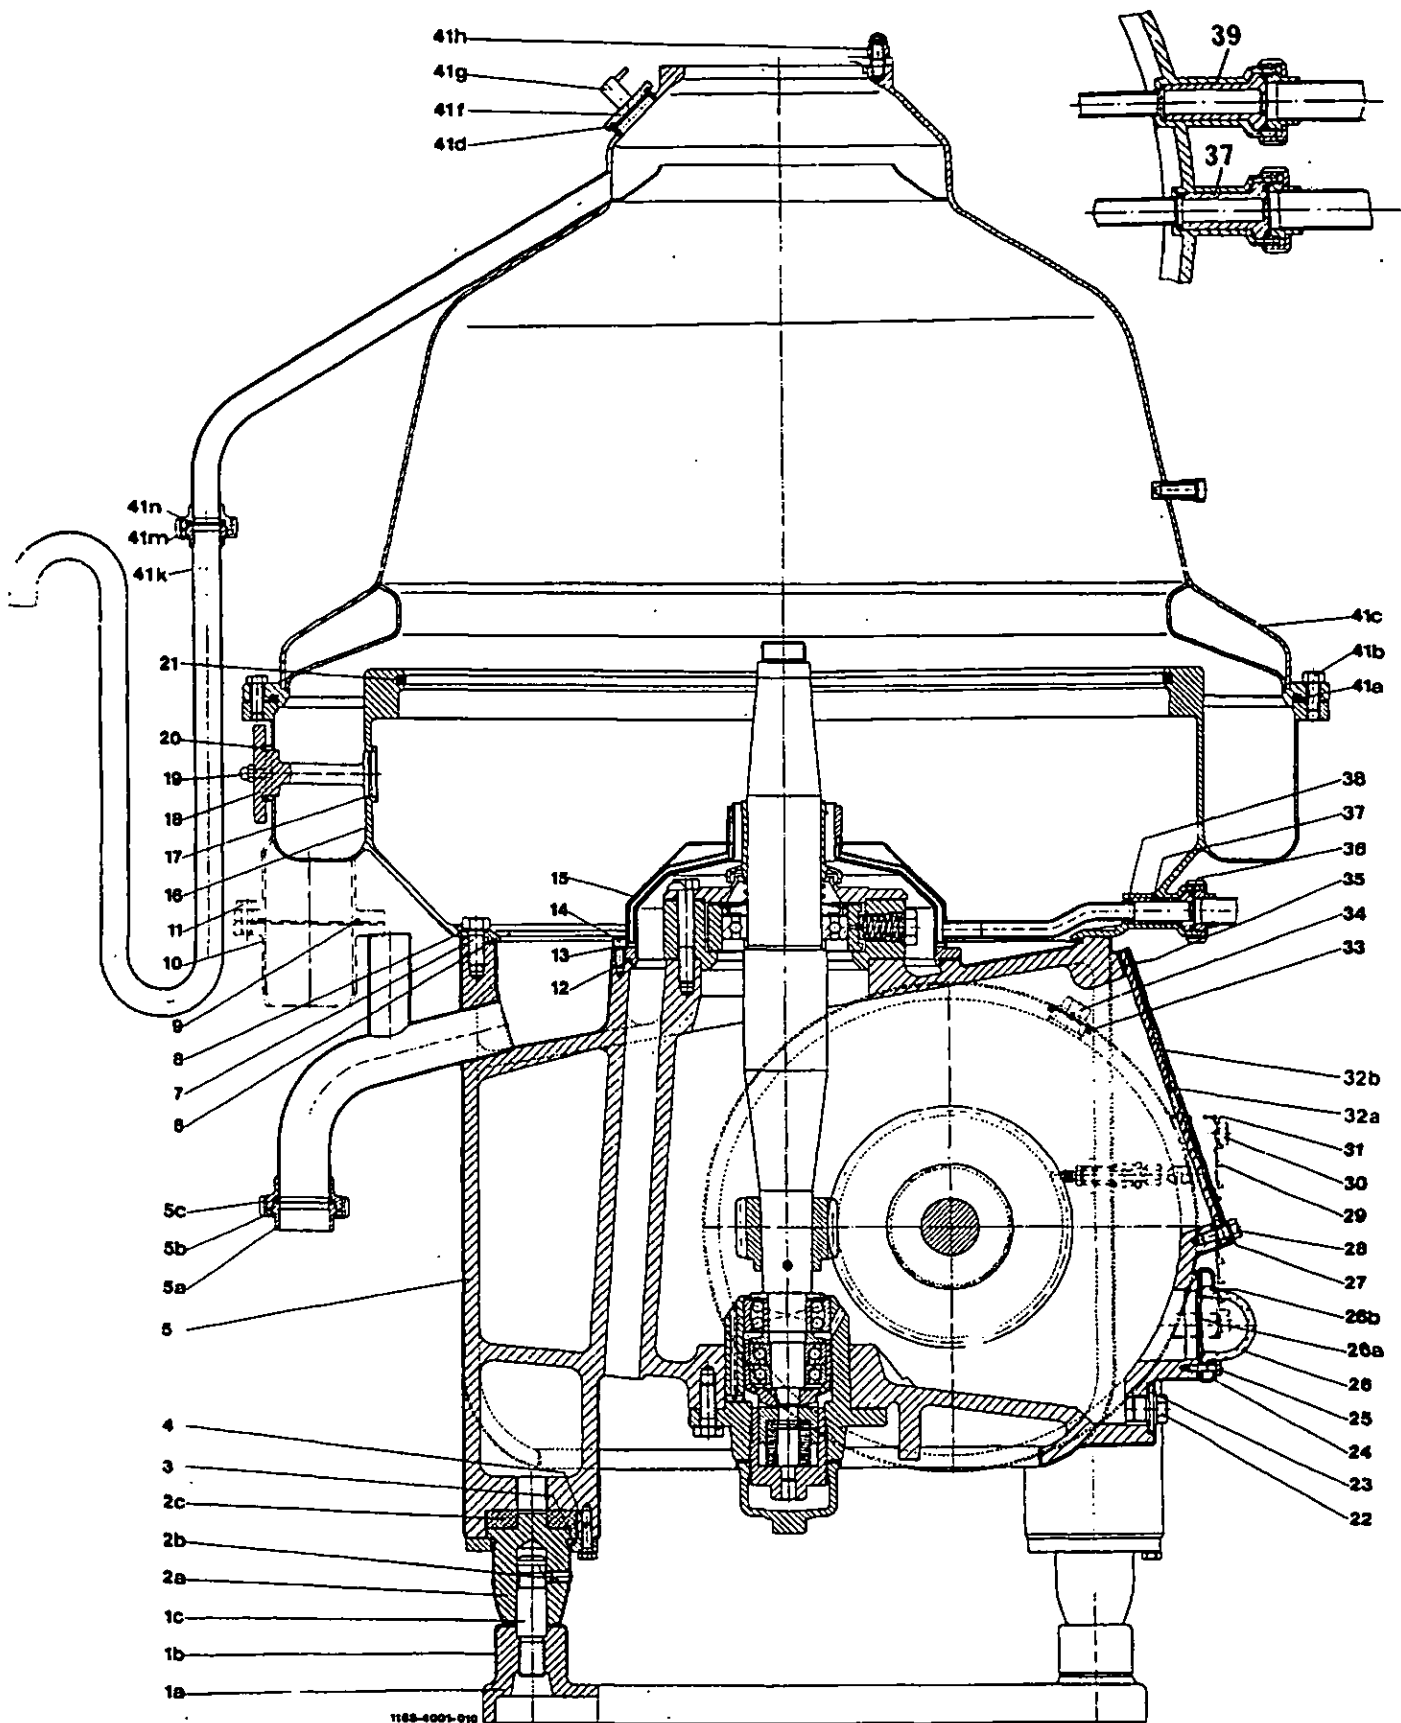

Fig. 13/1
2) Gasket 38 (fig. 13/1) is damaged or not inserted.	Replace or insert gasket.